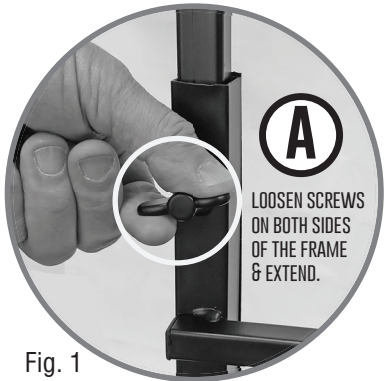

Fig. 1
- Loosen the two **Wing Screws**. **A** (see Fig.1)